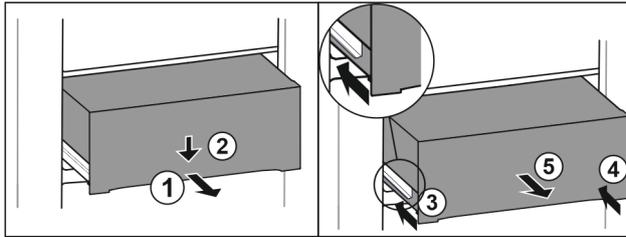

Fig. 120
- ▶ Pull out the drawer halfway. Fig. 120 (1)
- ▶ Press down the drawer on the front. Fig. 120 (2)
- ▶ Push in the left rail approximately 2 cm. Fig. 120 (3)
- ▶ Push in the right rail approximately 2 cm. Fig. 120 (4)
- ▶ Remove drawer to the front. Fig. 120 (5)